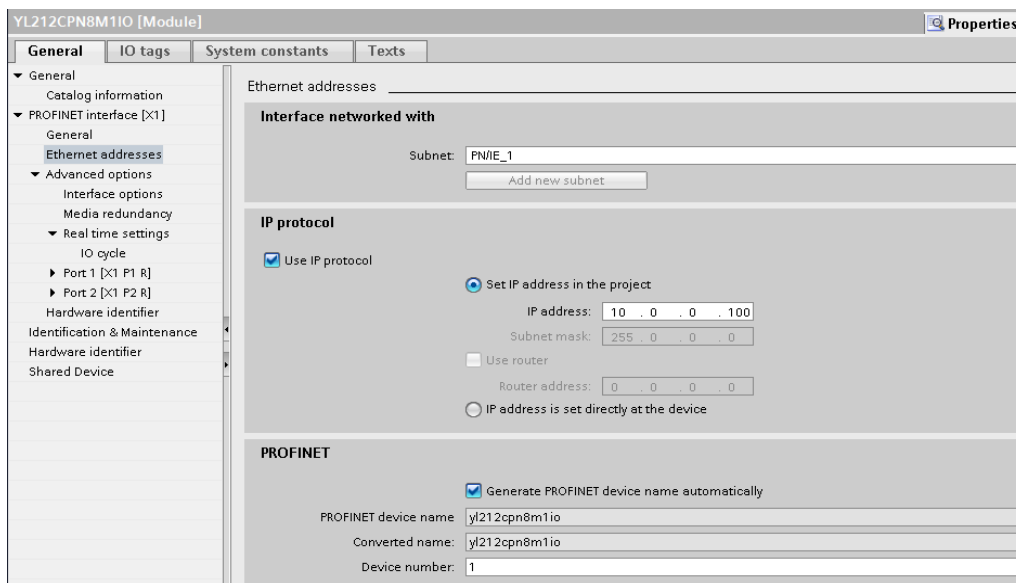

**Figure 3: IOLM Properties**
5. Double-click the IOLM, check Assign IP address via IO controller as shown in Figure 3.